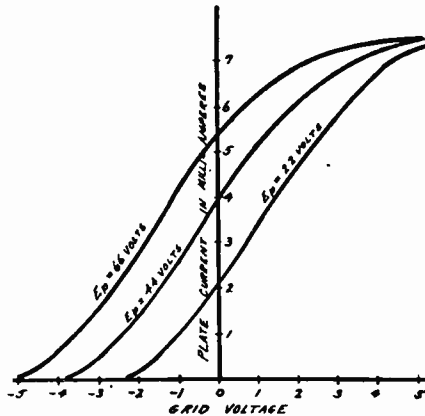
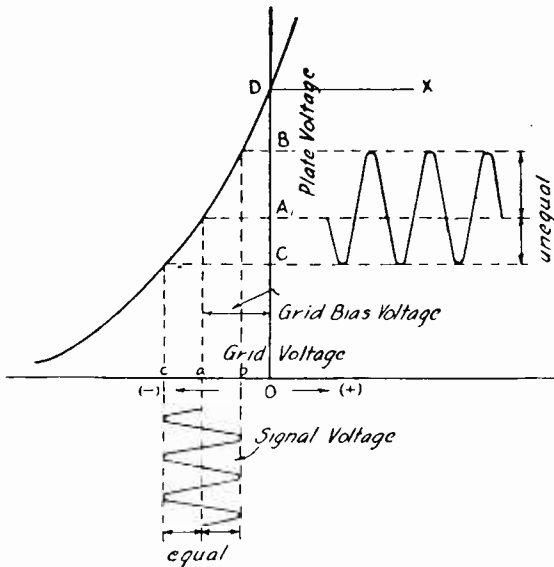

Fig. 20—Grid Voltage. Plate Current Characteristic Curve of a Vacuum Tube.
Fig. 21
By plotting them on cross-section paper, we will obtain a curve like the curved marked $E_p = 44$ volts in Figure 20.
Look at Figure 21; here we have a characteristic curve like those in Figure 20. Now suppose we have an audio-amplifying circuit and there is a "C" battery in the circuit which gives us a certain grid bias. Suppose we did not have any bias on the grid, in other words, the bias were zero. A large
plate current will then flow whose value is represented by the height of the line O-D in Figure 21.
When the "C" battery is connected in the circuit, giving us a certain negative grid bias, we can represent this negative voltage by the line O-a in Figure 21. This is called the operating voltage of the grid. When the signal voltage comes along and is impressed on the grid together with the C bias voltage, this signal voltage oscillates about the grid bias. Sometimes, making the grid voltage higher and at other times, lower.
Below the horizontal line of Figure 21, the signal voltage is shown. For simplicity, we have chosen a very simple wave
10. What is the plate current for the E_p 44-volt plate curve when the grid voltage is zero (0) in Figure 20?